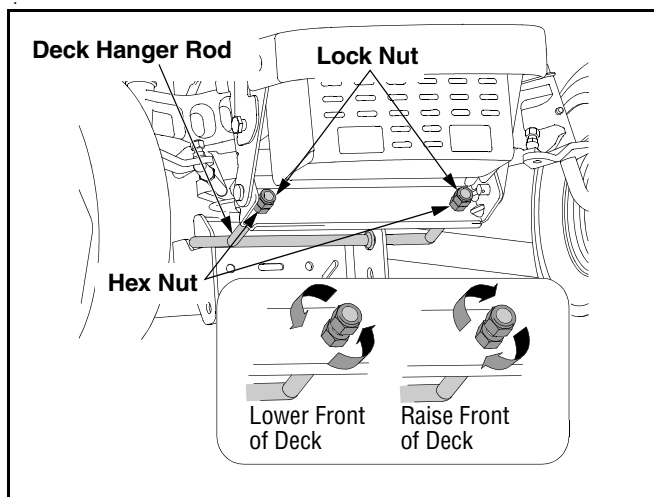

Figure 11
- From the front of the tractor, loosen the hex lock nut on each end of the deck hanger rod, and turn away from the inner hex nuts. Refer to Figure 11.